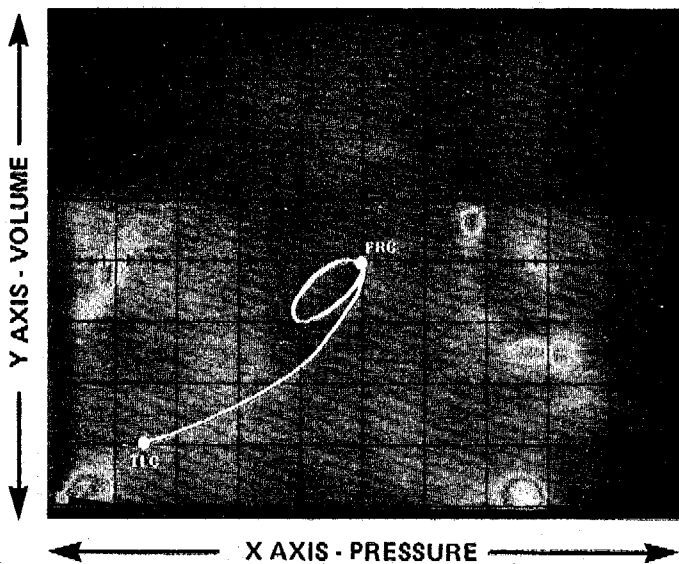

Figure 36 - Trace - Beginning of Dynamic Compliance Curve
- g. With the MECHANICS MODE switch in the (P-F•R)/VOL position, have the patient inspire to TLC, then expire to FRC before beginning the maneuver, as shown in Figure 36.
- h. Once the patient reaches FRC, have him breathe with a small fixed tidal volume at a fixed frequency. The end of each tidal breath should be FRC (point marked on Figure 36).
- j. As the patient breathes, the display now appears as a small loop which can also be seen in Figure 36.